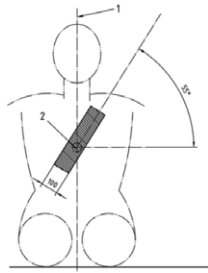

Figure 4: Upper torso safety belt positioning.
The shoulder part (1) of the safety belt should be positioned according to the figure 4.